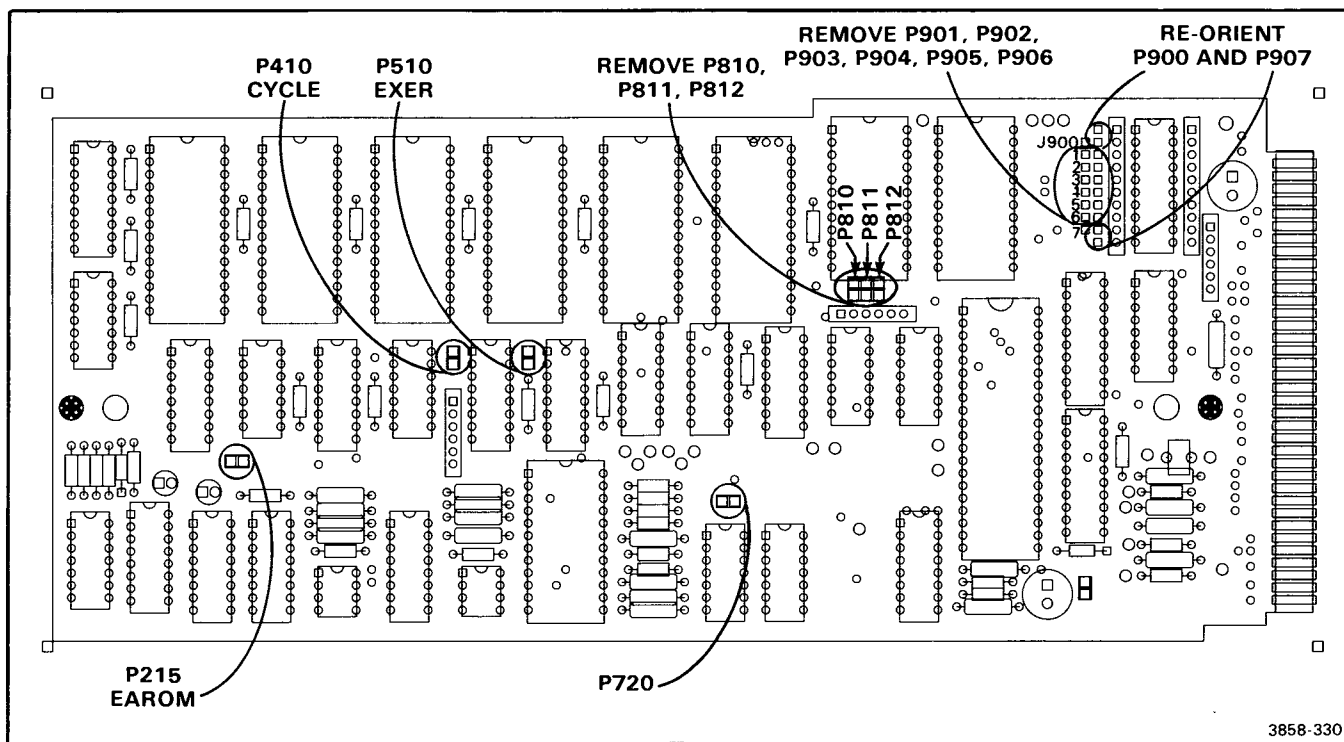

Figure 3-33. Configuration of jumper connectors on MPU Board for Forced Instruction Freerun.
P215	} See Figure 3-33
7. Remove P900 and P907, then install them as shown in Figure 3-33.
8. Check that the connector installation matches that shown in Figure 3-33.